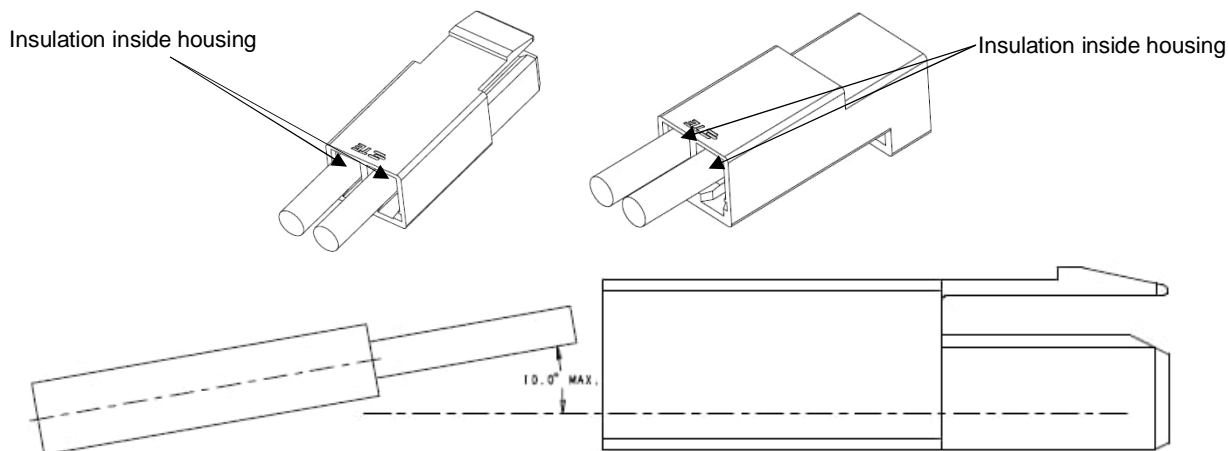

Figure 3
3. Insert each stripped wire into a poke-in slot in the back of the plug or receptacle until bottomed. The maximum allowed insertion angle is 10° (Figure 3).